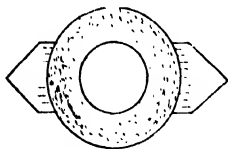

Fig. 254.—Plan of Date Indicator.
**Date Indicator.**—To make a handy date indicator, cut a circular piece from the large end of an egg, and make a slit at each side of it for slips of card on which are printed the days of the week (see Fig. 254). Also make holes on each side of the egg, with the necessary slits for holding the cardboard slips, which bear the month and date, and put a